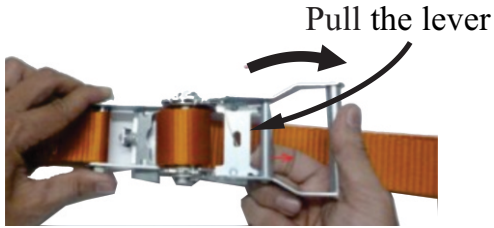

Figure 4.6
- To release or remove the strap, pull the lever firmly and open the ratchet widely (Figure 4.6).